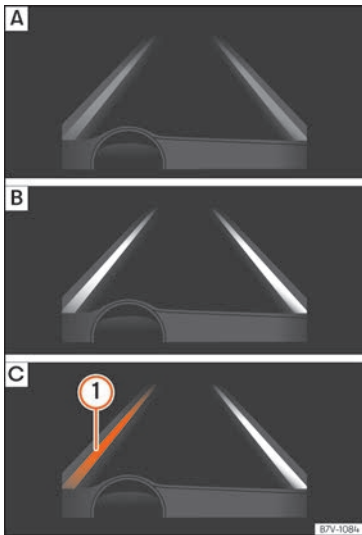

Fig. 269 On the instrument panel display: Indication on the Lane Assist system display.
- **Fig. 269 A:** The system is active, but not available, either because the minimum
- **Fig. 269 B:** The system is active and available, both lane lines are recognised. The steering angle is not being corrected at this moment.
- **Fig. 269 C:** The system is operational, the highlighted line ① indicates that there was a risk of involuntarily crossing the lane line and that the steering is being adjusted to correct the angle.